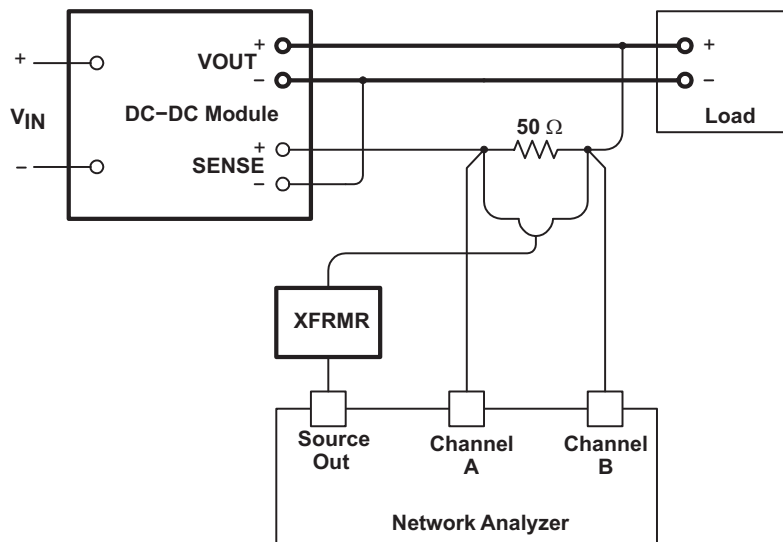
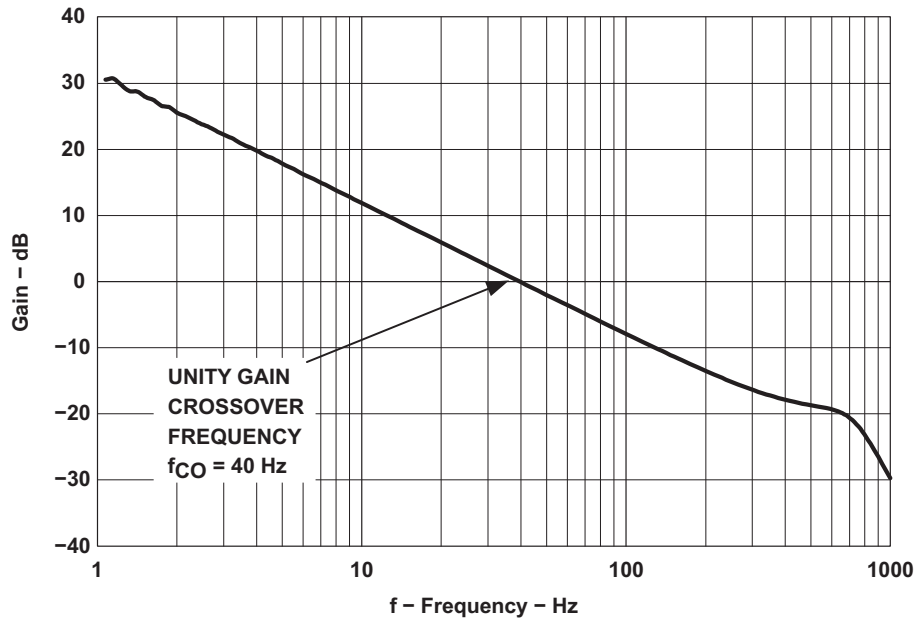

Figure 7. Unity-Gain Crossover Frequency Measurement Connection Diagram
Figure 8. Power Module Bode Plot
Using the configuration in Figure 7, measure the unity-gain crossover frequency of the power modules to be paralleled. A typical resultant bode plot is shown in Figure 8.
The total load-share loop unity-gain crossover frequency, f_{CO} , must be set at least one decade below the measured crossover frequency of the paralleled modules previously measured, $f_{CO(module)}$. (See Figure 8) Compensation of the transconductance error amplifier is accomplished by placing the compensation resistor, R_{EAO} , and capacitor, C_{EAO} , between EAO and GND. The values of these components is determined using Equation 8 and Equation 13.
- $G_{MODULE}(f_{CO})$ is the measured value of the gain from Figure 8, at the desired crossover frequency. (12)